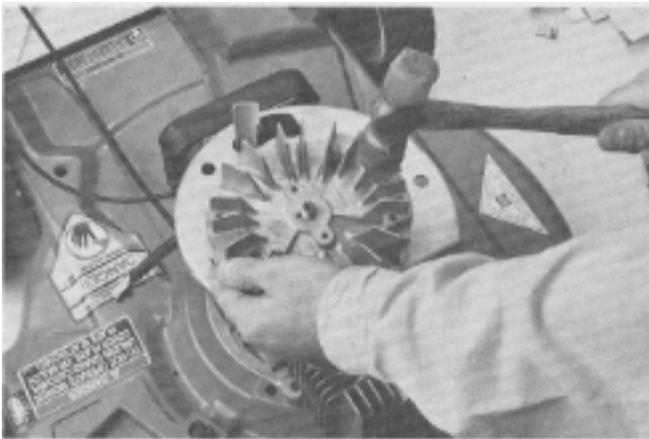

Figure 52
4. Remove flywheel by pulling up on edge of flywheel while striking wide fin of flywheel with a soft hammer (Figure 52).